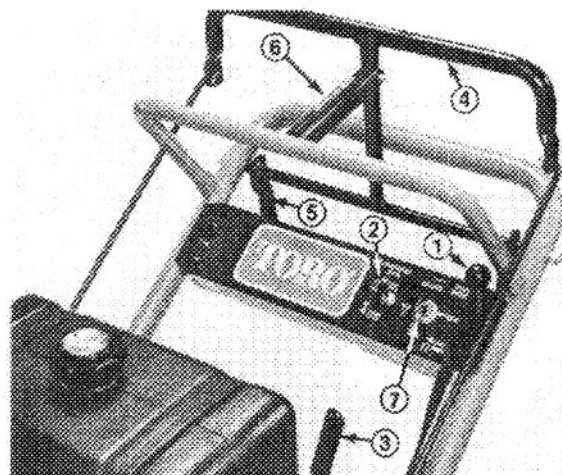

Figure 10
**Throttle Control (Fig. 10)** — The throttle control has three positions: CHOKE, FAST and SLOW.
**Deck Engagement Switch (Fig. 10)** — Toggle switch releases blade brake and engages electromagnetic clutch to drive deck pulleys.
**Gear Shift Lever (Fig. 10)** — Transmission has four forward speeds, neutral and reverse, and has an in-line shift pattern. Do not shift while unit is moving, as transmission damage may occur.
**Upper Control Bar (Fig. 10)** — Shift to desired gear and push forward on control bar to engage forward traction operation and pull back to brake. Pull right side of control bar to turn right and left side to turn left.
**Lower Control Bar (Fig. 10)** — Shift transmission to reverse and pull rearward on lower control bar to engage rearward traction operation.
**Parking Brake Lever (Fig. 10)** — Pull back on upper control bar and swing brake lever up against the upper handle.
**Ignition Switch (Fig. 10)** — Key switch is used in conjunction with recoil starter. Switch has two positions: RUN and OFF.